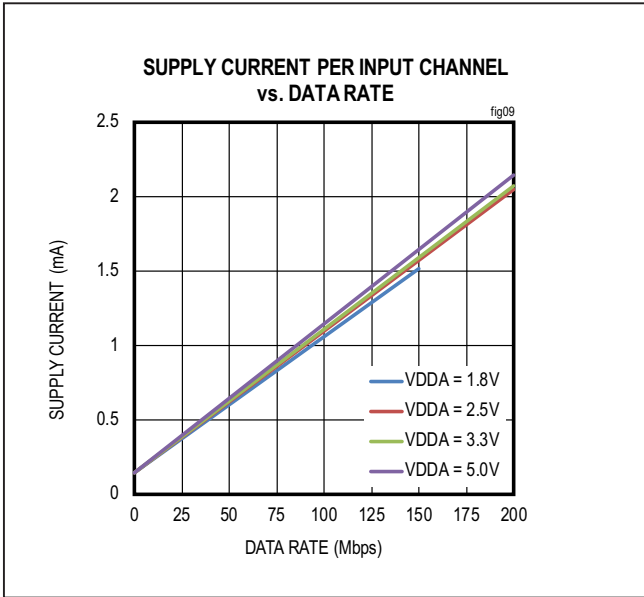
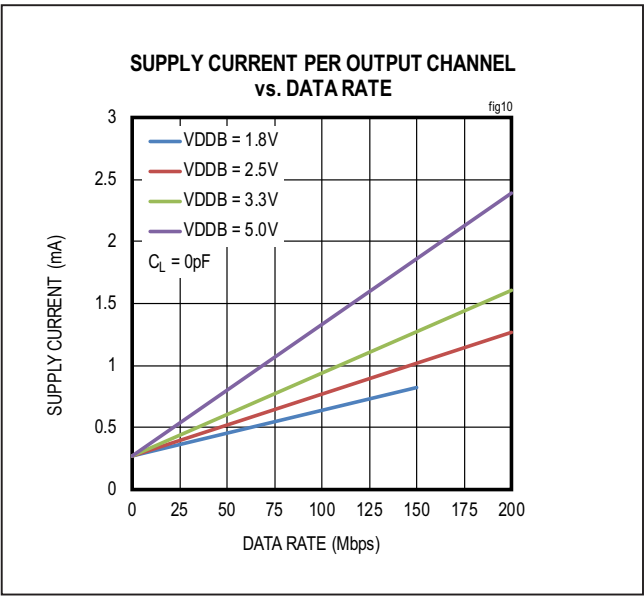

Figure 9. Supply Current Per Input Channel (Estimated)
Figure 10. Supply Current Per Output Channel (Estimated)
The required current for a given supply ( $V_{DDA}$  or  $V_{DDB}$ ) can be estimated by summing the current required for each channel. The supply current for a channel depends on whether the channel is an input or an output, the channel's data rate, and the capacitive or resistive load if it is an output. The typical current for an input or output at any data rate can be estimated from the graphs in Figure 9 and Figure 10. Please note that the data in Figure 9 and Figure 10 are extrapolated from the supply current measurements in a typical operating condition.
The total current for a single channel is the sum of the “no load” current (shown in Figure 9 and Figure 10) which is a function of Voltage and Data Rate, and the “load current,” which depends on the type of load. Current into a capacitive load is a function of the load capacitance, the switching frequency, and the supply voltage.
- Channel 1 is an input channel operating at 2.5V and 20Mbps, consuming 0.33mA, estimated from Figure 9.
- Channel 2 and 3 are input channels operating at 2.5V with DC signal, consuming 0.14mA, estimated from Figure 9.
- Channel 4 is an output channel operating at 2.5V and 100Mbps, consuming 0.77mA, estimated from Figure 10.
- Channel 1 is an output channel operating at 3.3V and 20Mbps, consuming 0.40mA, estimated from Figure 10.
- Channel 2 and 3 are output channels operating at 3.3V with DC signal, consuming 0.27mA, estimated from Figure 10.
- Channel 4 is an input channel operating at 3.3V and 100Mbps, consuming 1.11mA, estimated from Figure 9.